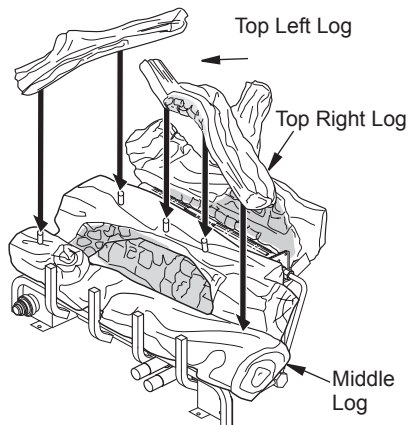

Figure 25 - Installing Top Logs
4. Place top right log onto pins of middle log (see Figure 25). The bottom of the top log will rest on the middle log as shown in Figures 25 and 26.
5. Place top left log on middle log as shown in Figure 25.